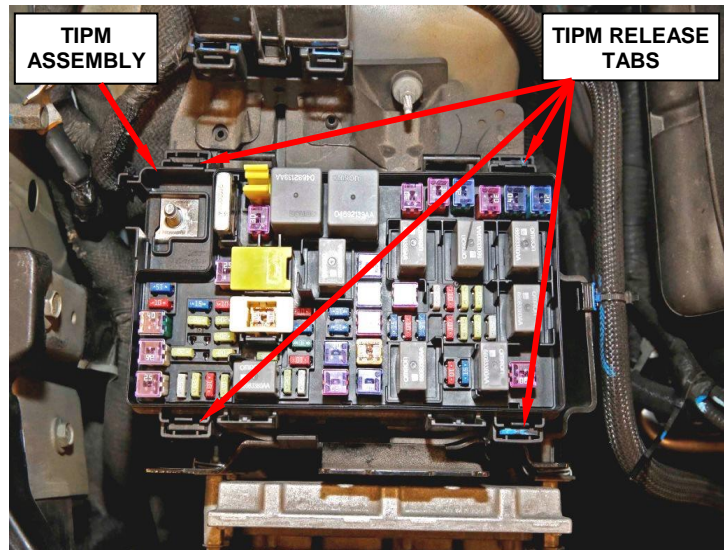

Figure 4 – TIPM Release Tabs
6. Push the four TIPM retaining tabs and separate the TIPM from the TIPM support bracket (Figure 4).